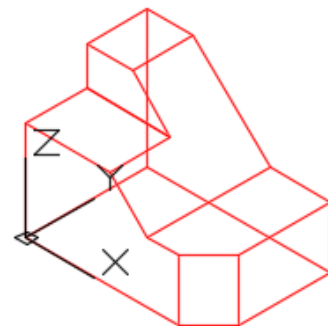

Figure Step 8
Step 8 Change the current view to SE Isometric as shown in the figure. (Figure Step 8)